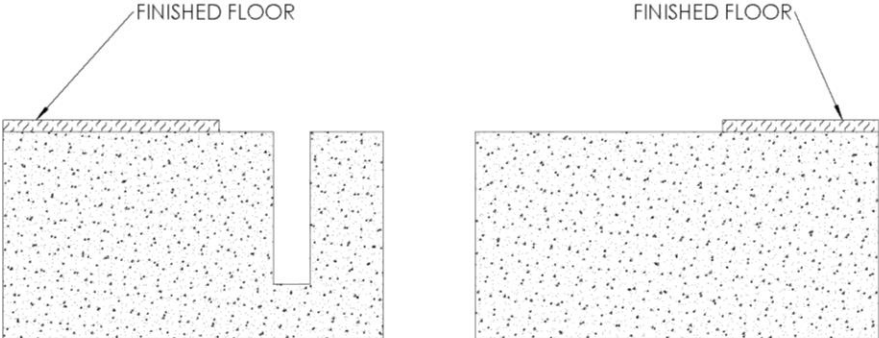

FIGURE 2
- 2. The floor should be finished (by others) on the anchored and non-anchored side of the expansion joint, up to the locations marked in Step 1. **See Figure 2.**